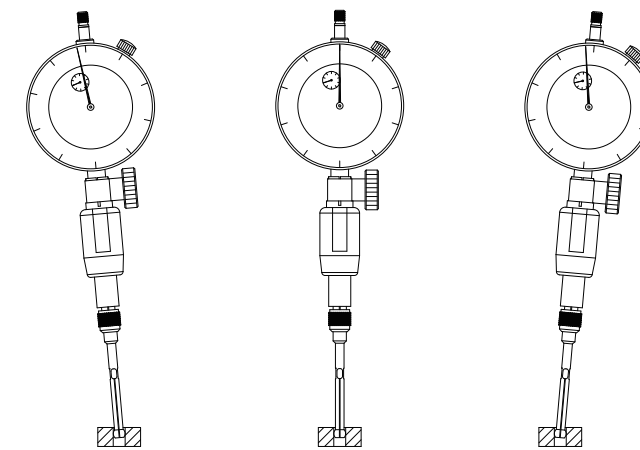

fig.2
- (2) Select a ring gage that is equal to or close to the nominal diameter of the measured hole to calibrate the zero point, place the inner diameter gage into the calibration ring gage, swing the inner diameter gage according to fig.2, find the "inflection point" of the pointer (the maximum value of the dial indicator), adjust the dial indicator so that the "0" line coincides with the "inflection point" of the pointer